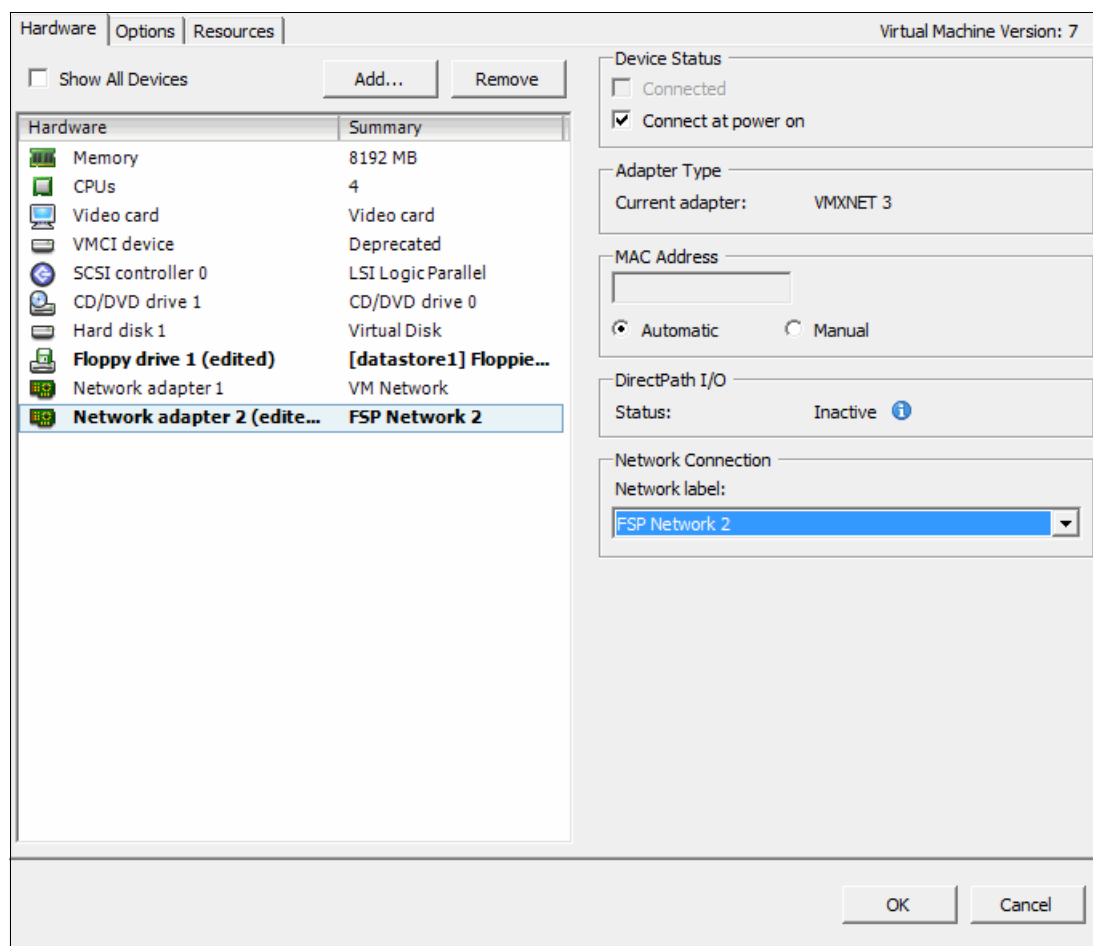

Figure 3-64 Network bridge selection
17. Select **Network adapter** (Figure 3-64) and the appropriate network bridges for the virtual NICs. Click **OK** to complete the configuration.